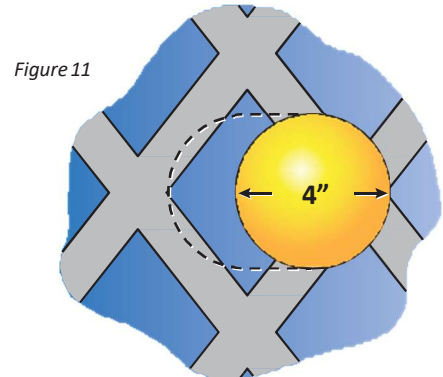

Figure 11
- Openings in the barrier shall not allow passage of a 4-inch diameter sphere. (figure 11).